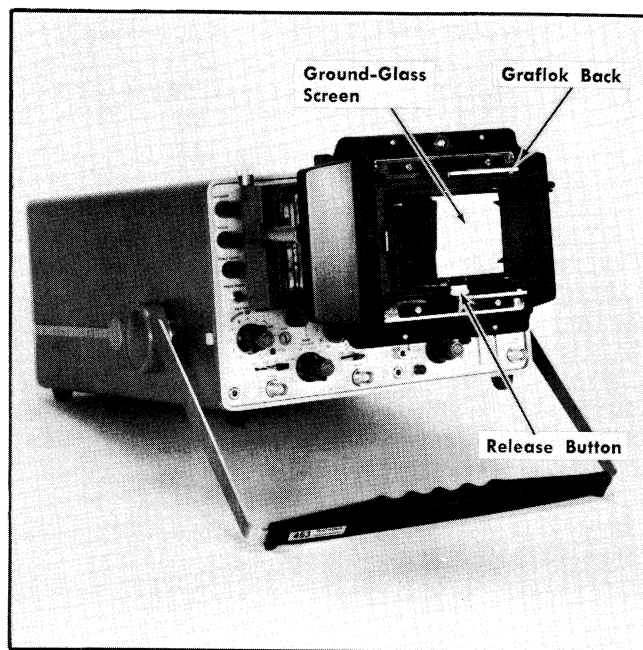

Fig. 2-2. The Graflok Back installed to permit focusing.
Install the Graflok back and press the release button on the back (see Fig. 2-2). Set the Lens for maximum aperture (f/1.2) and set the SPEED selector on (T). Obtain a sharply focused trace on the CRT using the oscilloscope Focus and